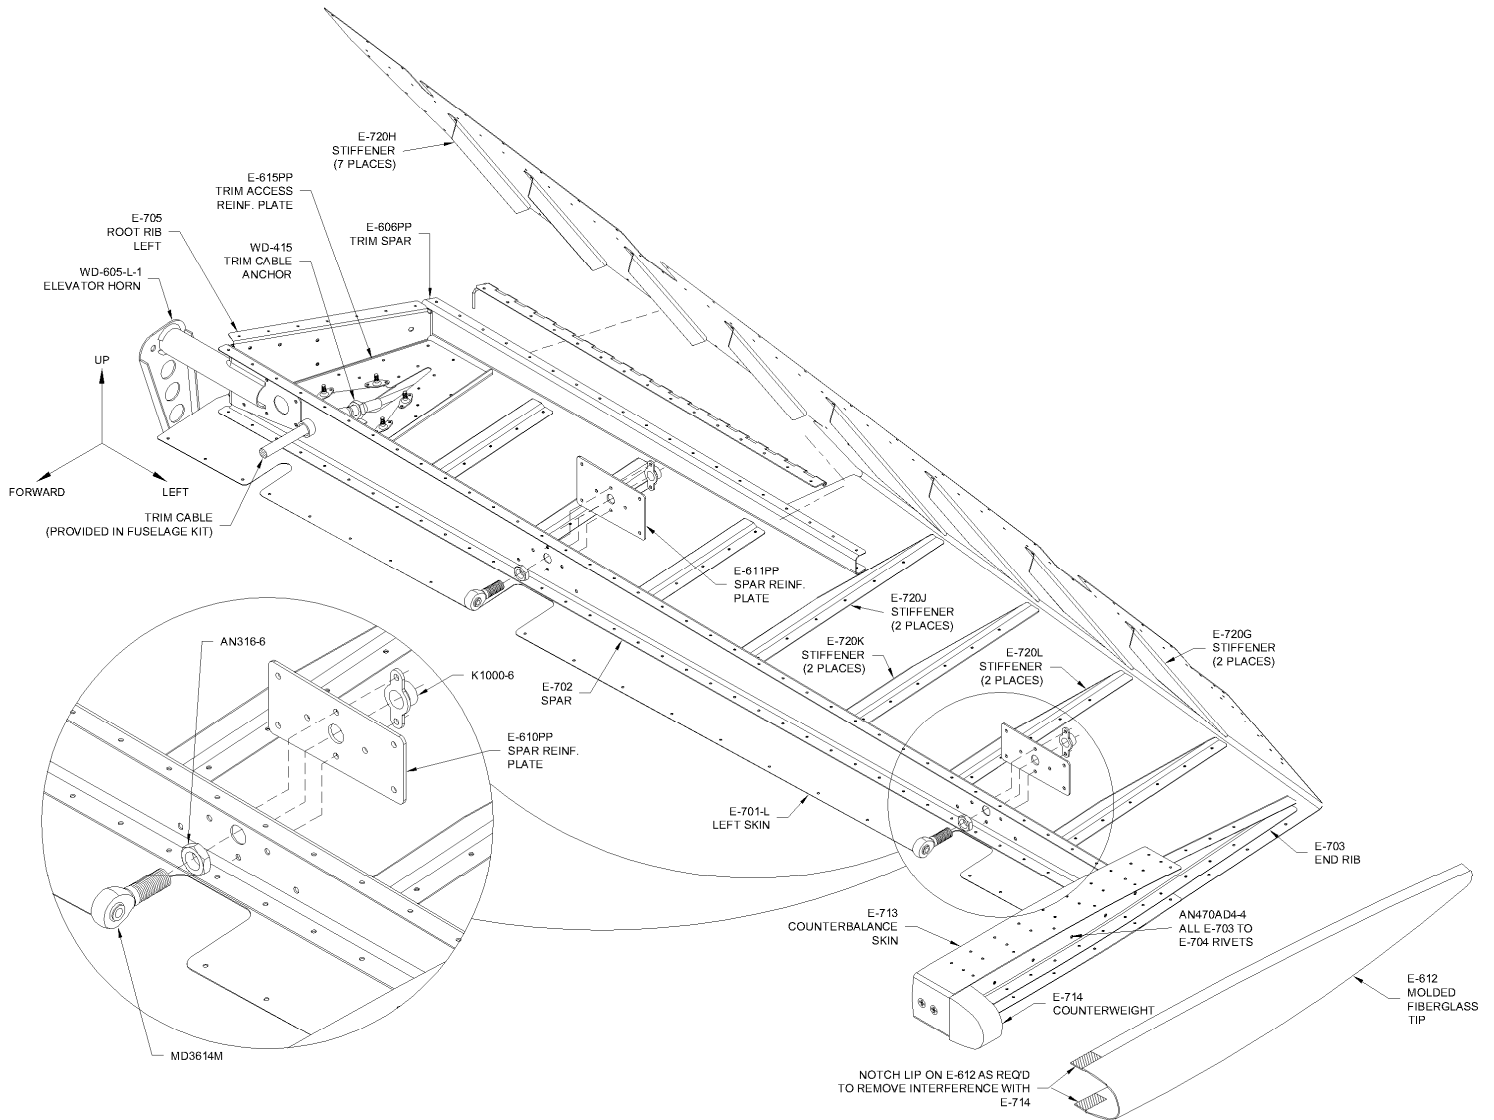
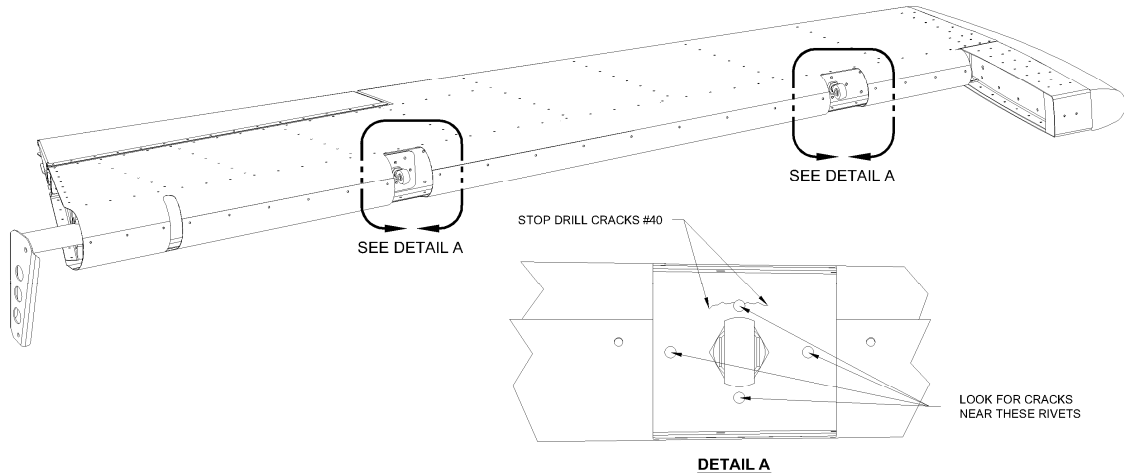

FIGURE 1: ELEVATOR ASSEMBLY
FIGURE 2: INSPECTION FOR CRACKING
Cracks have been found near the rivets attaching the nutplates that hold the elevator rod ends to the E-702 Spar and E-610PP or E-611PP Spar Reinforcement Plates. See Figure 1, Figure 2 and corresponding elevator assembly plans pages.
Step 1: Carefully inspect elevator hinge positions around the rivets noted in Figure 2.
Step 2: If cracking is found, remove the elevator and stop drill #40 the cracks through the E-702 spar web only. Do not continue to drill through the E-610PP or E-611PP Spar Reinf. Plates. See Figure 2.
Step 5: Remove the four rivets surrounding the rod end bearing hole (Figure 2). Use the Nutplate Holding Tool to prevent the nutplate from falling inside the elevator. Refer to Section 5 on how to carefully remove rivets without causing rivet hole damage.